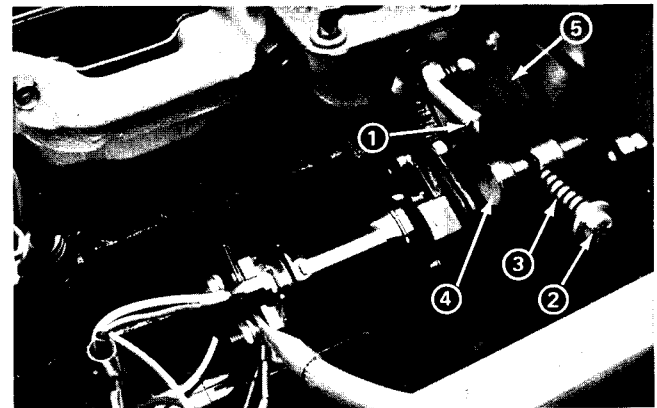

Figure 68
10. Loosen the jam nut on the P.T.O. adjusting bolt. Unscrew and remove the bolt, washer, spring and pin (Fig. 68). Remove the P.T.O. belt